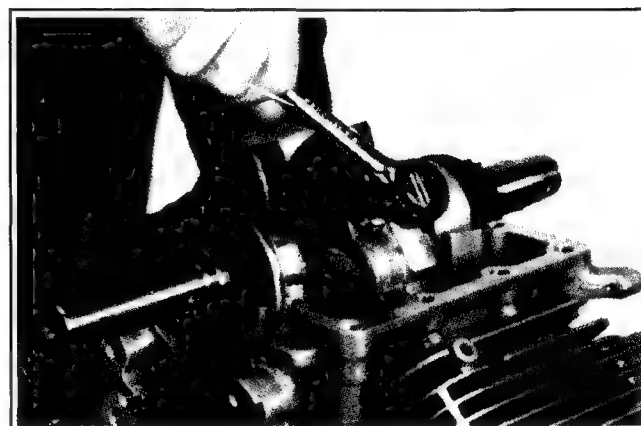

Figure 9-53. Removing Connecting Rod Caps.
2. Remove the connecting rod cap screws. See Figure 9-53.